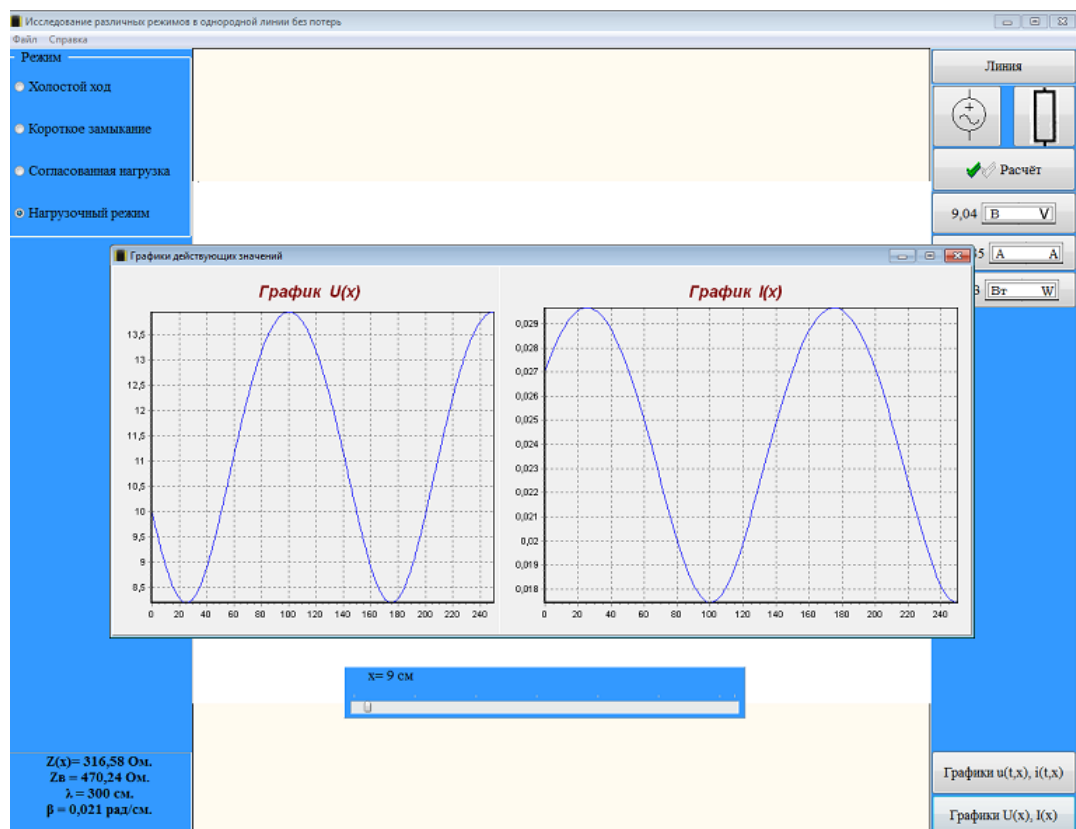

Figure 7.7 – Graphs of the effective voltage and current
5. To obtain a graph of the distribution of the current values of voltage and current along the line, click on the button “Graphs  $U(x)$ ,  $I(x)$ ” (figure 7.7).